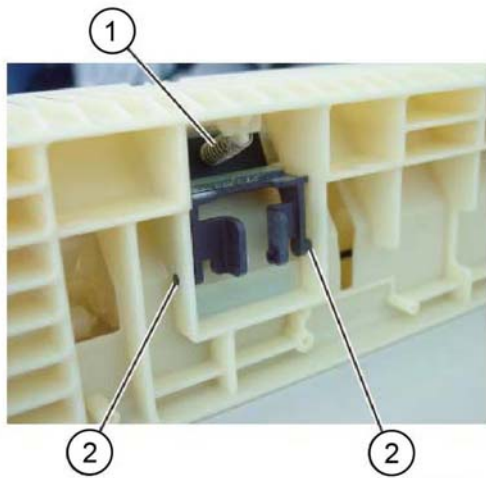

Figure 4 Retard pad removal
5. Remove the bypass tray retard pad, Figure 4.
- a. Remove the spring (1).
- b. Release the bosses (2), then remove the bypass tray retard pad.